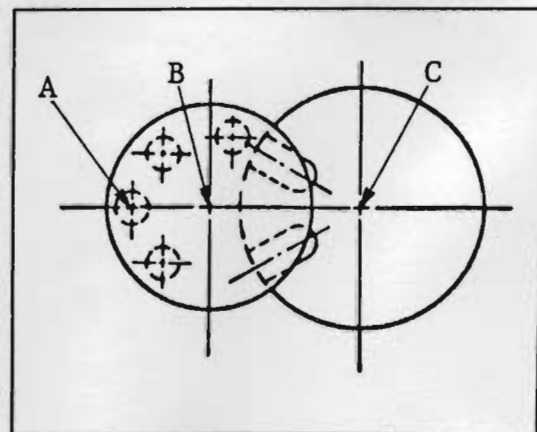

Figure 6-9
3. Rotate turret change shaft until roll in turret slide drops into detent on turret change shaft (recent design machines). For earlier design machines, rotate turret change shaft until turret change roll center "A", turret change shaft center "B", and turret center "C" are in line as shown in Figure 6-9. Limits of misalignment of roll are  $\frac{1}{16}$ " above and  $\frac{1}{32}$ " below center.